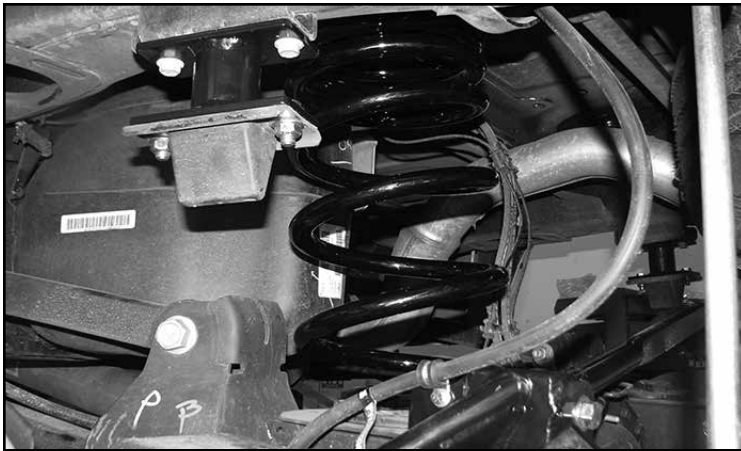

FIGURE 76 - STEP 68
68. Locate and Install (FT44321BK) Fabtech rear spring using the factory rubber isolators as shown. **SEE FIGURE 76**